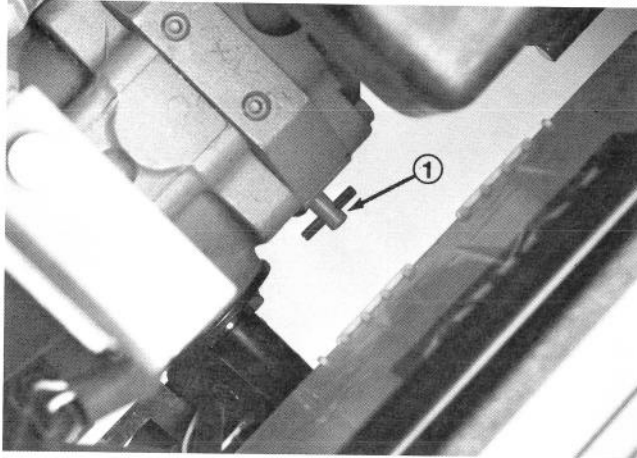

Figure 13
1. Reach in under seat and rotate by-pass valve (Fig. 13) counterclockwise $1/2$ to 1 turn. Opening the valve opens an internal passage in the pump, thereby by-passing transmission oil. Because fluid is by-passed, the machine can be pushed without damaging the transmission.